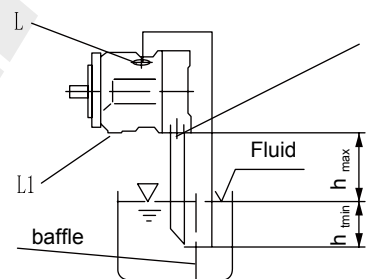

Figure 4
b) If the minimum fluid level is at or below the upper surface of the pump: ports "L" and "S" be piped as shown in Figure 4. block "L₁". The conditions meet 1.2.1.
a) Installation above the reservoir, figure 4